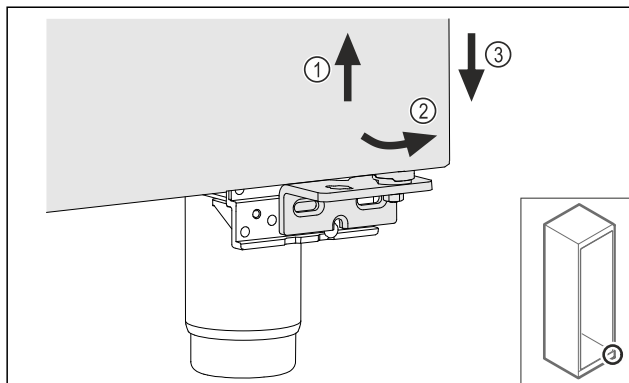

Fig. 19
- Lift the door slightly Fig. 19 (1), tip it forward Fig. 19 (2) and lower it Fig. 19 (3).